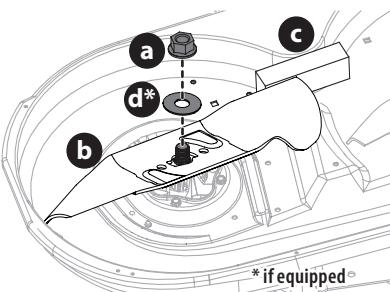

Figure 52
2. Place a block of wood (c) between the deck housing and the cutting edge of the blade (b) to help in breaking loose the hex nut (a) and washer (d)* securing the blade (b). Use a 15/16 inch wrench to loosen the hex nut (a) and washer (d)* (Figure 52).
3. When re-installing blades, be sure of the following (Figure 52):